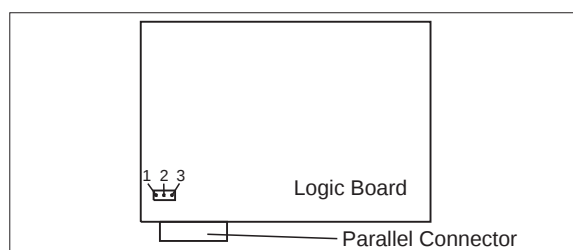

Figure 47. Models A00, 001, and 002 Pin 18 +5V Jumper Location. (Viewed From Rear)
3. If a 2 pin jumper is installed on a 3 pin connector, as shown in Figure 47, use the chart below and verify the jumper is installed to enable +5 V dc on pin 18. If the jumper is not installed correctly, move it to the pins shown in the chart.